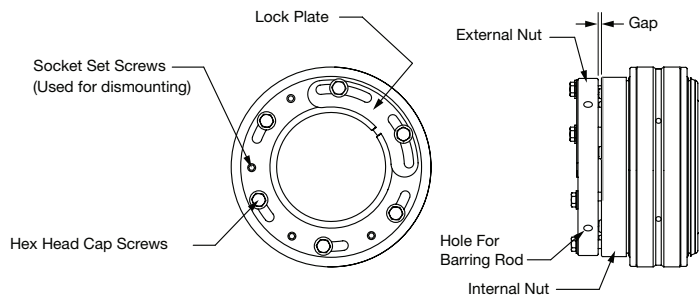

Figure 1. Bearing with dual nut as shipped with gap.
The locknut assembly is comprised of an external nut and internal nut. The bearing is shipped such that there is a gap between the two nuts. The two nuts must maintain this gap prior to mounting the bearing. The dual nut configuration prior to installation is shown in Figure 1. Note the position of the external nut slots relative to the hex cap screws.
- Remove two hex head cap screws nearest to the slot in the adapter. A slight gap may appear between the two nuts when these two hex head cap screws are removed. This is a normal occurrence and the gap will close up when the two hex head cap screws are reinstalled. Install the lock plate so that the tab fits into the adapter slot. If the lock plate does not line up with the two holes, it can be flipped over to fit as shown in Figure 1. Reinstall the two hex head cap screws to secure the lock plate and torque all of the hex head cap screws to the values shown in Table 1.